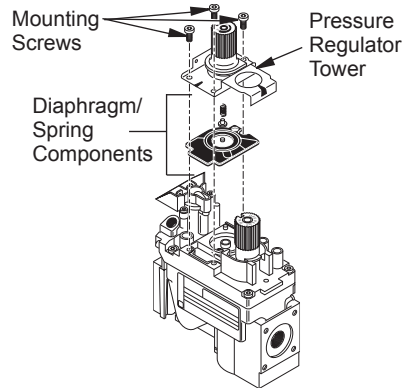

Figure 35- Removing Parts for Gas Control Valve Conversion
1. Using a TORX T20 or a slotted screwdriver, remove and discard the three mounting screws, pressure regulator tower and diaphragm/spring components (see Figure 35).